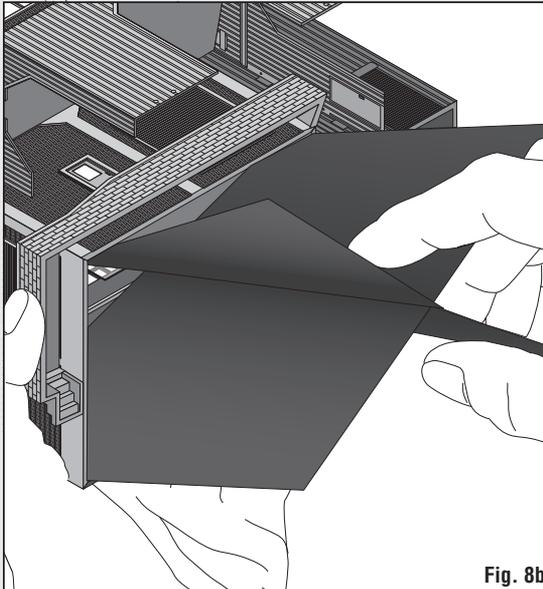

Fig. 8b
- Insert into Buildings (Fig. 8b).